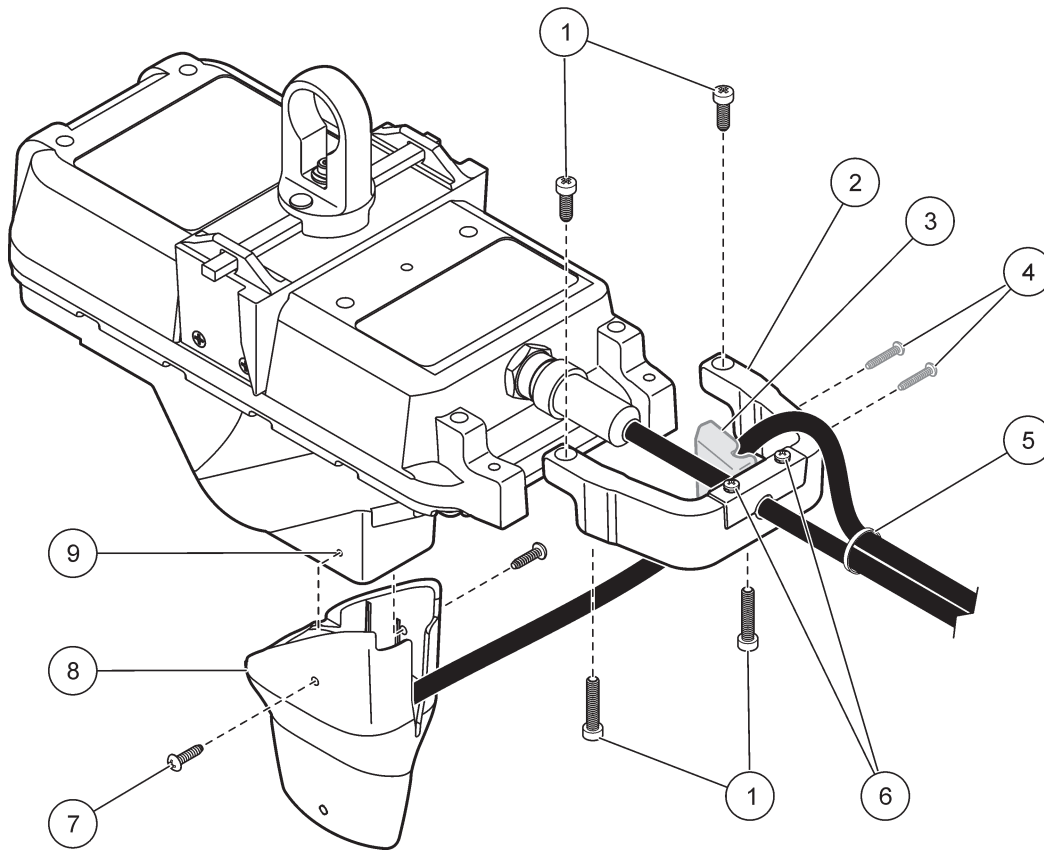

Figure 1 SVS to Flo-Dar assembly
To attach a SVS to an existing Flo-Dar, holes must be drilled on the Flo-Dar. The SVS clamp is not used (ignore step 5). To add drill holes, put the SVS sensor on the Flo-Dar. Use the SVS sensor as a template to add the holes on the Flo-Dar. Drill two screw holes with a diameter of 0.159 and a depth of 0.75 inches (Figure 1, item 9). Do not drill through the Flo-Dar enclosure.
1. Remove the Flo-Dar handle (Figure 1, item 1 and 2).
2. Put the SVS on the Flo-Dar with the holes on the SVS aligned with the drill holes on the two sides of the Flo-dar (Figure 1, item 9).
5. Remove the SVS cable clamp screws. Attach the SVS cable with the cable clamp and the 1-1/4 inch screws (Figure 1, item 3 and 4)
6. Loosen the Flo-Dar cable clamp screws and install the Flo-Dar handle. Adjust the Flo-Dar cable and tighten the Flo-Dar cable clamp screws (Figure 1, item 6).
7. Attach the Flo-Dar cable and the SVS cable with zip-ties. Start 1 inch away from the Flo-Dar handle, attach a zip-tie every 5 feet (Figure 1, item 5).